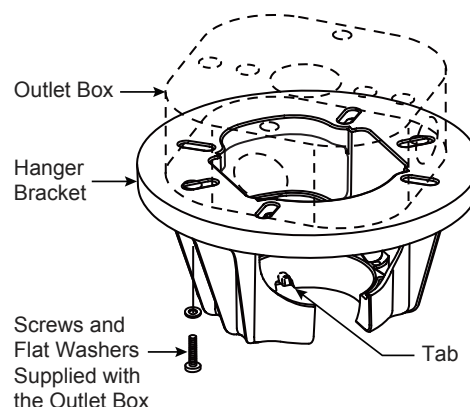
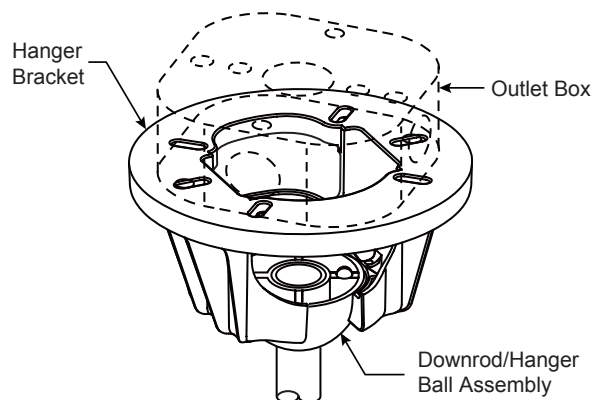

Figure 3
Figure 4
- ☐ 1. Securely attach the hanger bracket to the outlet box using the outlet box screws and washers supplied with the outlet box. (Figure 3)
NOTE: Outlet box screws pass through slotted holes of the hanger bracket. (Figure 3)
- ☐ 3. Carefully lift the fan and seat the downrod/hanger ball assembly onto the hanger bracket that was just attached to the outlet box. (Figure 4) Be sure the groove in the ball is lined up with tab on the hanger bracket. (Figure 3)
2. Slide the receiver into the hanger bracket before wiring as shown in figure 3.
3. Connect wires using connectors as shown in Figure 4.